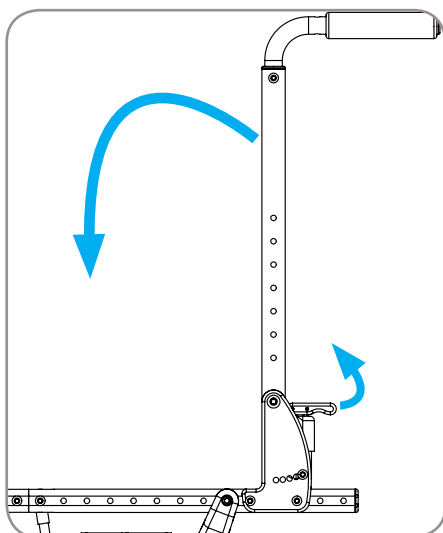

Figure 8
6. Lift up on the backpost release levers and fold down the backposts. Reference Figure 8.